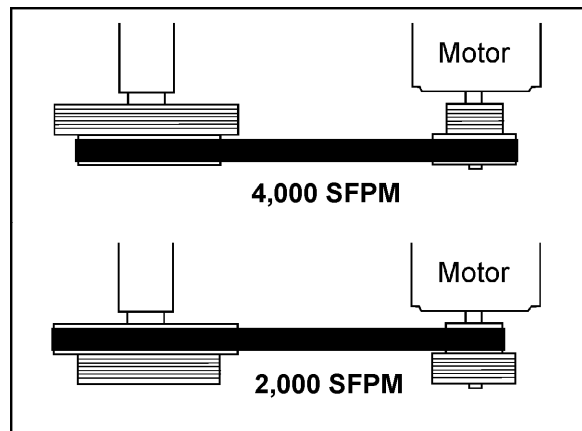

Figure 27
The bandsaw will operate at 2,000 or 4,000 SFPM (surface feet per minute). Figure 27 shows the appropriate belt position to achieve each speed.
3. Slide the belt onto the appropriate set of pulleys (Figure 27). Make sure the belt is aligned properly.